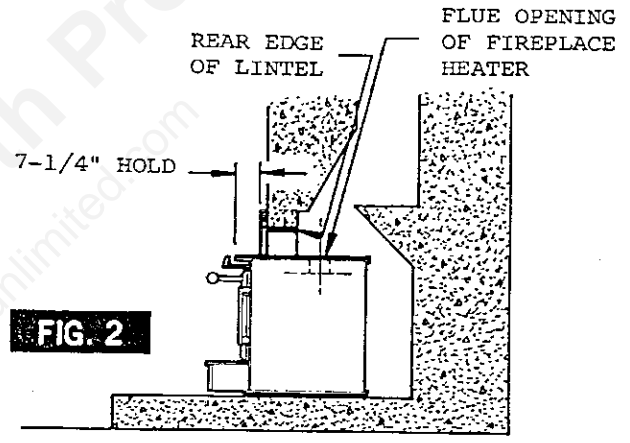

FIG. 2
1. For Brass Trim Kit to fit properly to trim panels, the distance from the top of the front edge of the fireplace heater to the front face of the trim panels must be 7-1/4" (See Figure 2). If present trim panels are not in this location, move them accordingly. For assistance in relocating trim panels, see Owners Manual under "Trim Panel Assembly Instructions."